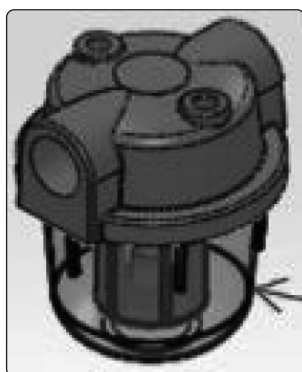
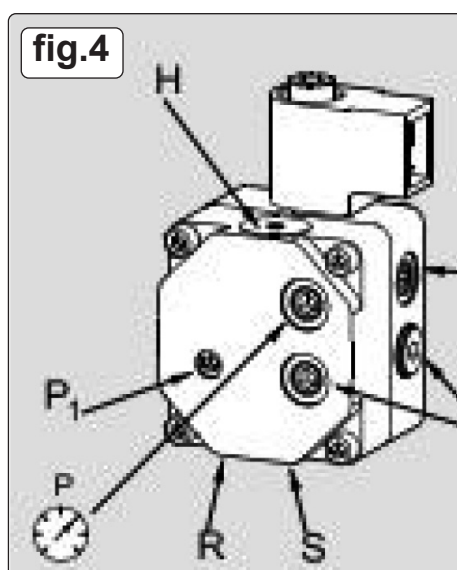

fig.3
fig.4
- 7.7.1. Clean fuel filters by unscrewing the filter tray (clockwise) Remove the filter cartridge and wash it with petrol or replace it if necessary. Check seal O-ring and replace it if necessary. Reassemble the tray, fig.3. The fuel filter installed on the gear pump should be cleaned or replaced if necessary by unscrewing cap H, fig.4.
7.9.2. Remove pressure gauge cap (P) fig.4. Connect a pressure gauge on the pressure measuring port on pump. Start heater and read fuel pressure value. If necessary adjust pressure to the correct value turning the adjusting screw (P1) fig.4, clockwise to increase, anticlockwise to decrease the pressure: